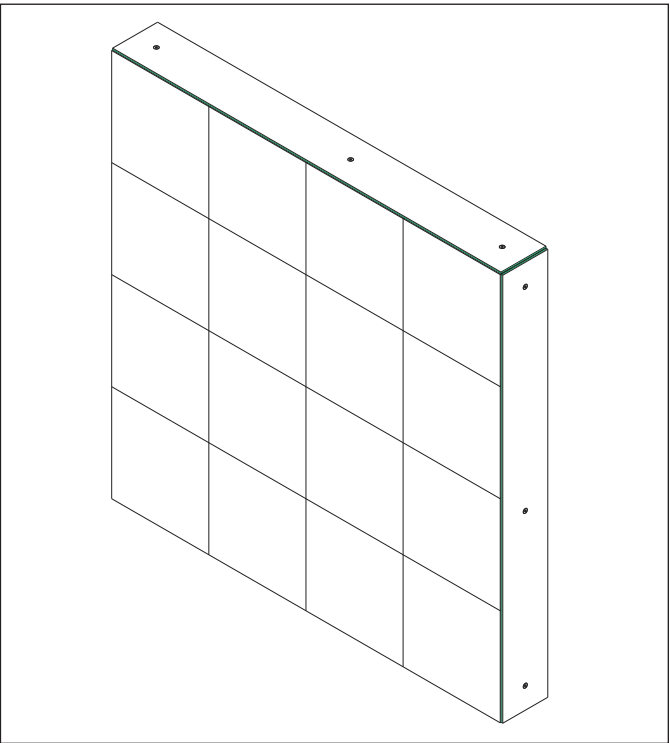

Figure 4: Fasten Border to Panel
6. Use a 3 mm hex bit to attach the M5-0.8 x 10 mm machine screws (HC-4090079) and fasten the border to the panels in all pre-punched countersink hole locations on the borders. Each panel has threaded holes for borders on all four sides. Refer to **Figure 4** for the finished appearance.